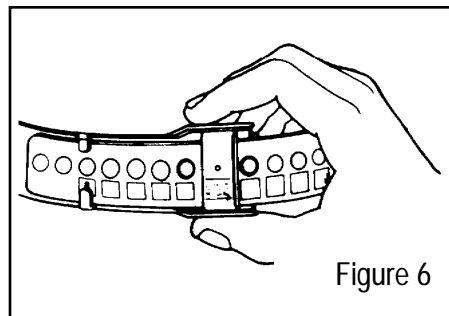

Figure 6
5. Place the headband on your head. Pull down allowing headband to expand until it feels comfortable. Headband automatically adjusts to your size and locks when you release your grip (Figure 6).